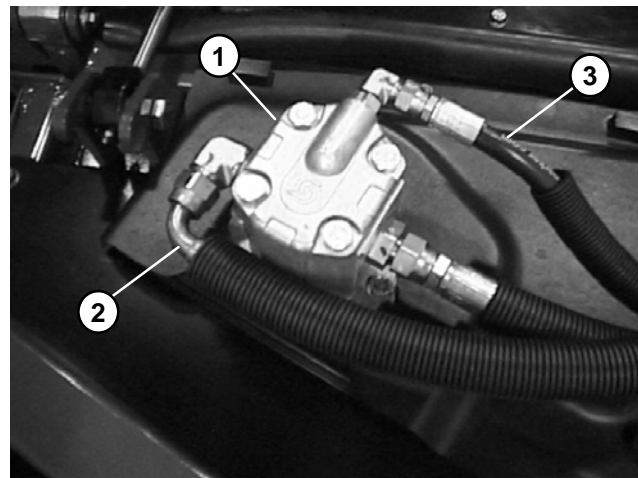

Figure 28
3. Disconnect return hose from the motor to be tested (Fig. 28). Install flow tester in series with the motor and the disconnected return hose. **Make sure the flow control valve on tester is fully open.**